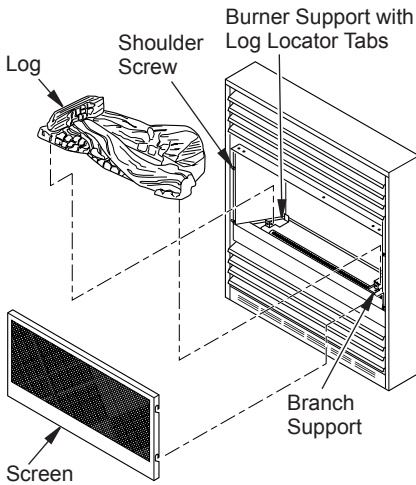

Figure 2 - Assembling Fireplace
4. Remove log packaging material and discard packaging. Gently place log set on burner support (see Figure 2). The log should fit flat against top of burner support and log locator tabs fit into the slots under the log. Do not allow log to contact flame. If flame contacts log, soot will be created.